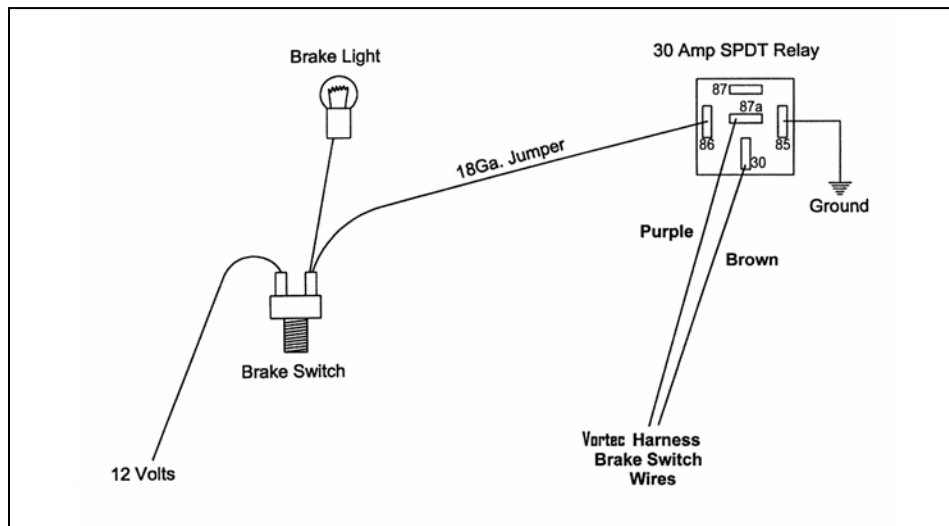

FIGURE 6.3 Brake Switch Relay
- 4.1.1 If you are using the 4L80E transmission, you must use the vehicle speed sensor (VSS), and the correct brake switch. These are necessary to make the transmission work correctly. The vehicle speed sensor lets the computer know how fast the wheels are turning. The brake switch should be closed (electrically connected) when the brakes **ARE NOT** being applied and open (not electrically connected) when the brakes **ARE** being applied. This is the opposite of a standard brake light switch. If you are using a pressure brake switch, a **SPDT** relay must be installed to unlock the converter when the brakes are applied. See **Figure 6.3**
- F. If your vehicle has a pressure type brake switch, you may use a relay as shown in **Figure 6.3**. The relay must be a **SPDT Relay** and wired correctly or it could result in a dangerous situation with the vehicle. The torque **converter may not unlock**.